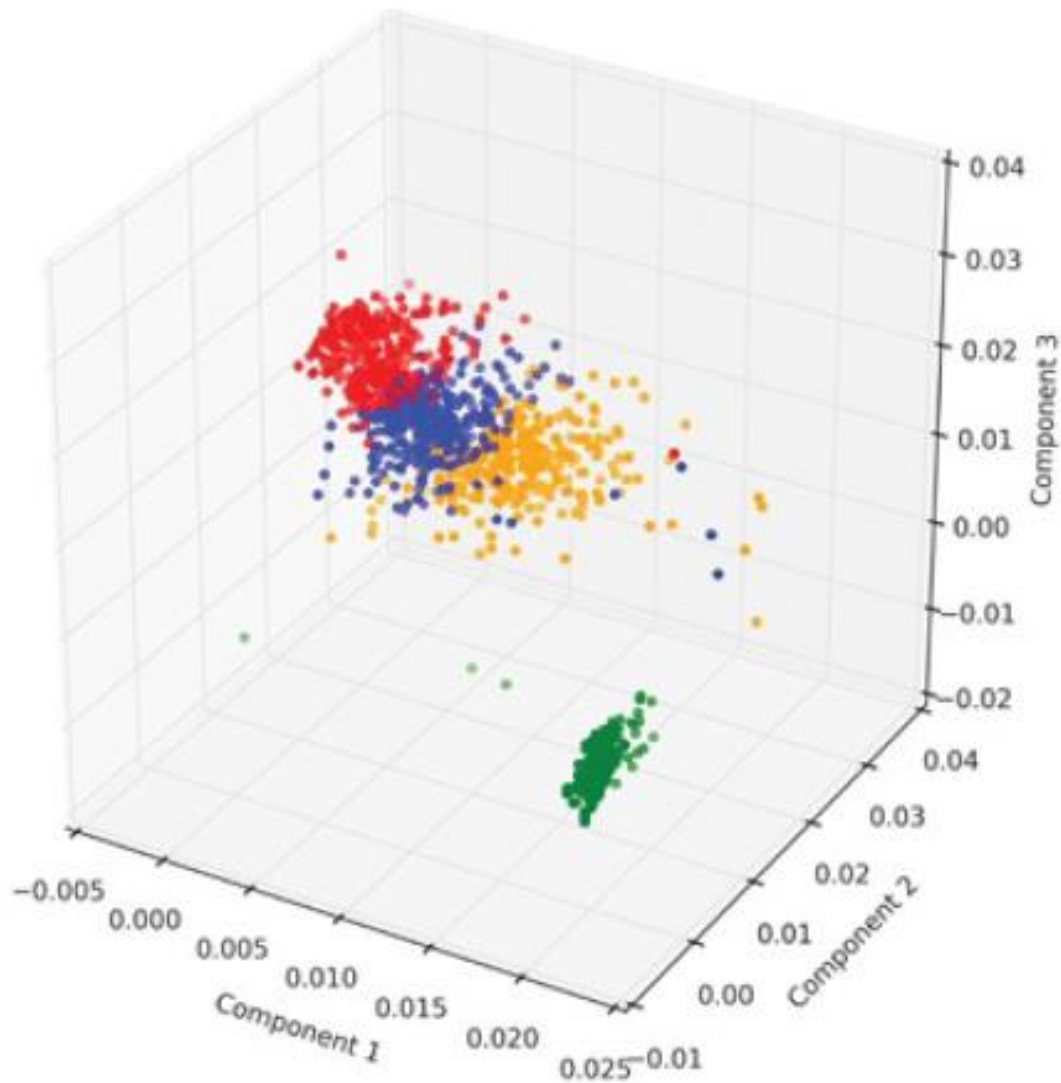

Figure 7.5 : Clustering and Deviation Detection Example
- The figure 7.5 shows an example of such grouping and deviation identification logic.